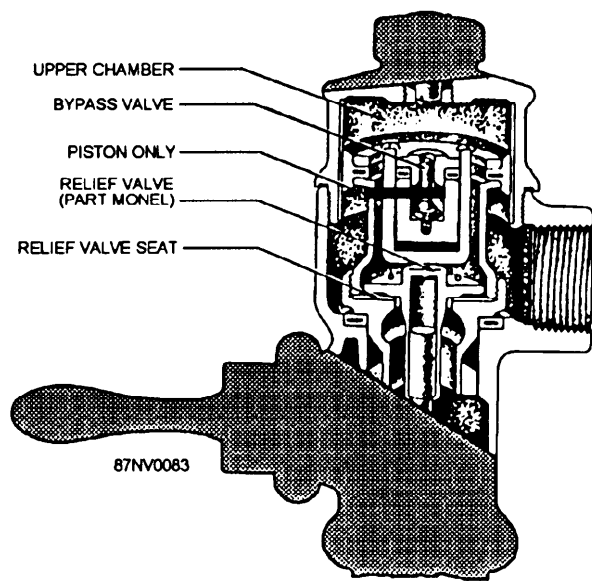

Figure 16-44.—Piston-type flushing valve.
Any flush valve will give years of adequate and trouble-free operation if it is properly maintained. However, there are two major problems that may occur in flush valves: (1) the valve may run continuously instead of shutting off at the right time, or (2) the valve may fail to deliver the desired amount of water (short flushing). Both of these defects can waste a lot of water. One of the reasons for a flush valve is to reduce water waste; therefore, proper maintenance is important. Once you understand the principle and the operation of a valve, you will know what to look for when anything goes wrong. The internal working parts of a typical piston-type flushing valve are shown in figure 16-44.